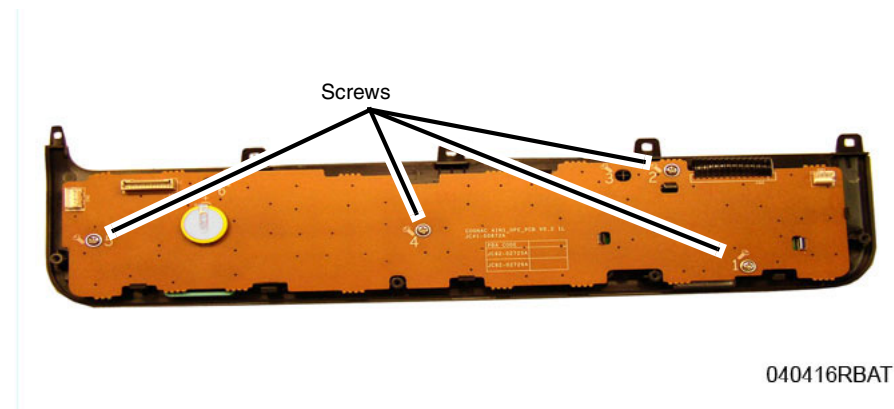

Figure 1 Control Panel PWB removal
3. Remove the Control Panel PWB, Figure 1: